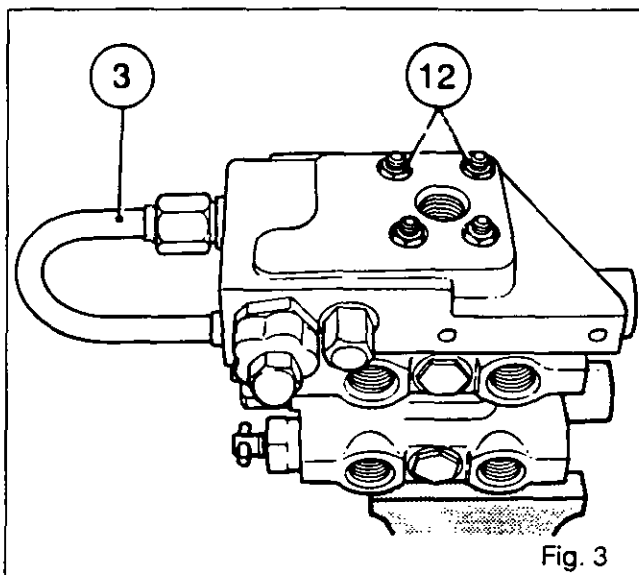
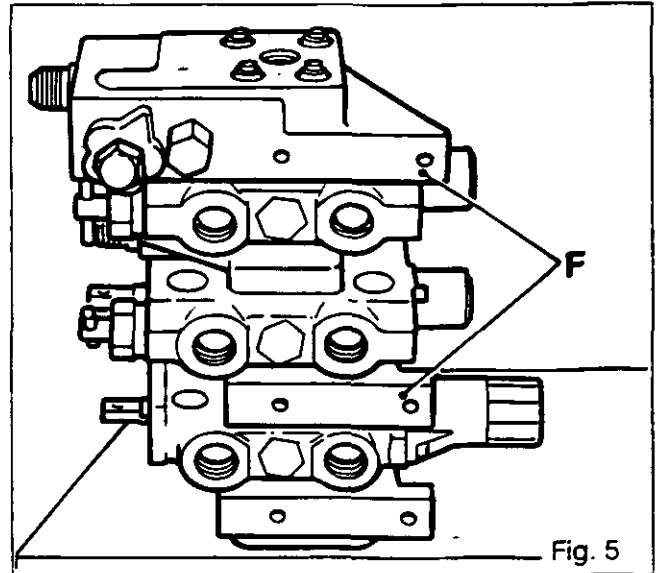
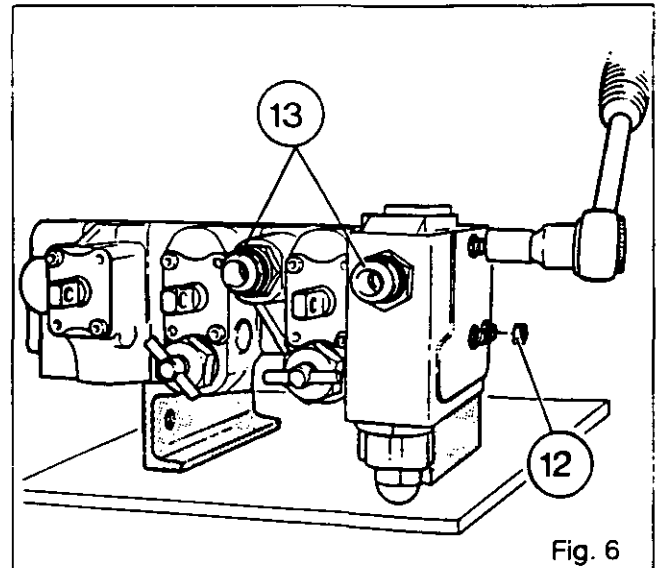

Fig. 3
Fig. 5
Fig. 6
4. Remove hose (3). Unscrew nuts (12)(Fig.3).
8. In order, assemble the sealing plates with their seals, the intermediate blocks, the spool valves and the flow divider (Fig.5).
9. Position the spool valve unit, with fixing faces **F** (Fig.5) resting on a flat surface (Fig.6) to ensure that the spool valves are properly fitted onto their bracket.
10. Fit and tighten unions **(13)**(Fig.6) and hose **(3)**(Fig.3) to torque 50 Nm.